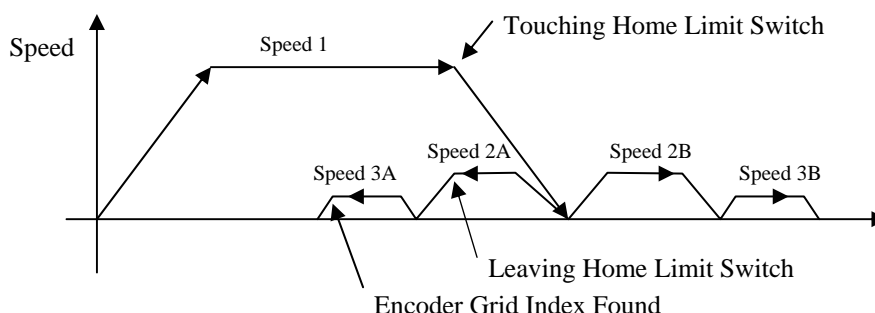

Fig 7.2 Tool's moving speed when searching for HOME location
Set the moving speed when the tool, after having touched the HOME limit switch, is searching for the encoder grid signal during HOME execution. HUST H2N CNC has three (3) different speeds when you execute HOME function as shown by Fig 7.2.